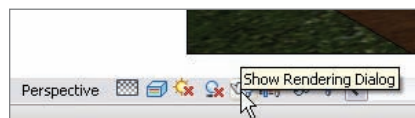

FIGURE 19.4 The Show Render Dialog button
18. Click the Show Render Dialog button on the View Control bar, as shown in Figure 19.4.